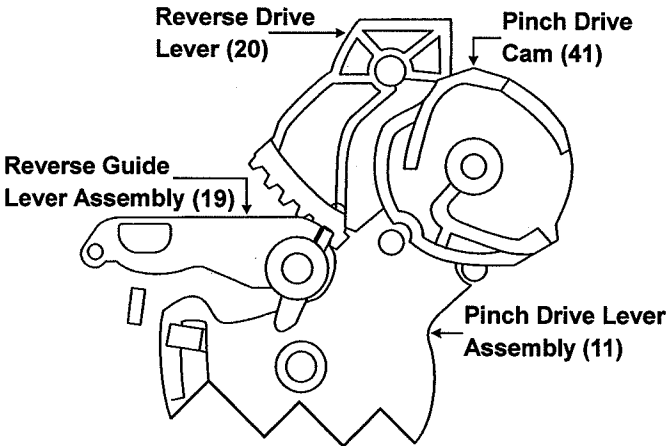

Figure 3
Align the Reverse Drive Lever (20) with the Reverse Guide Lever Assembly (19) and the Pinch Drive Lever Assembly (11). Align the Pinch Drive Cam (41) with the Pinch Drive Lever Assembly as shown in figure 3.